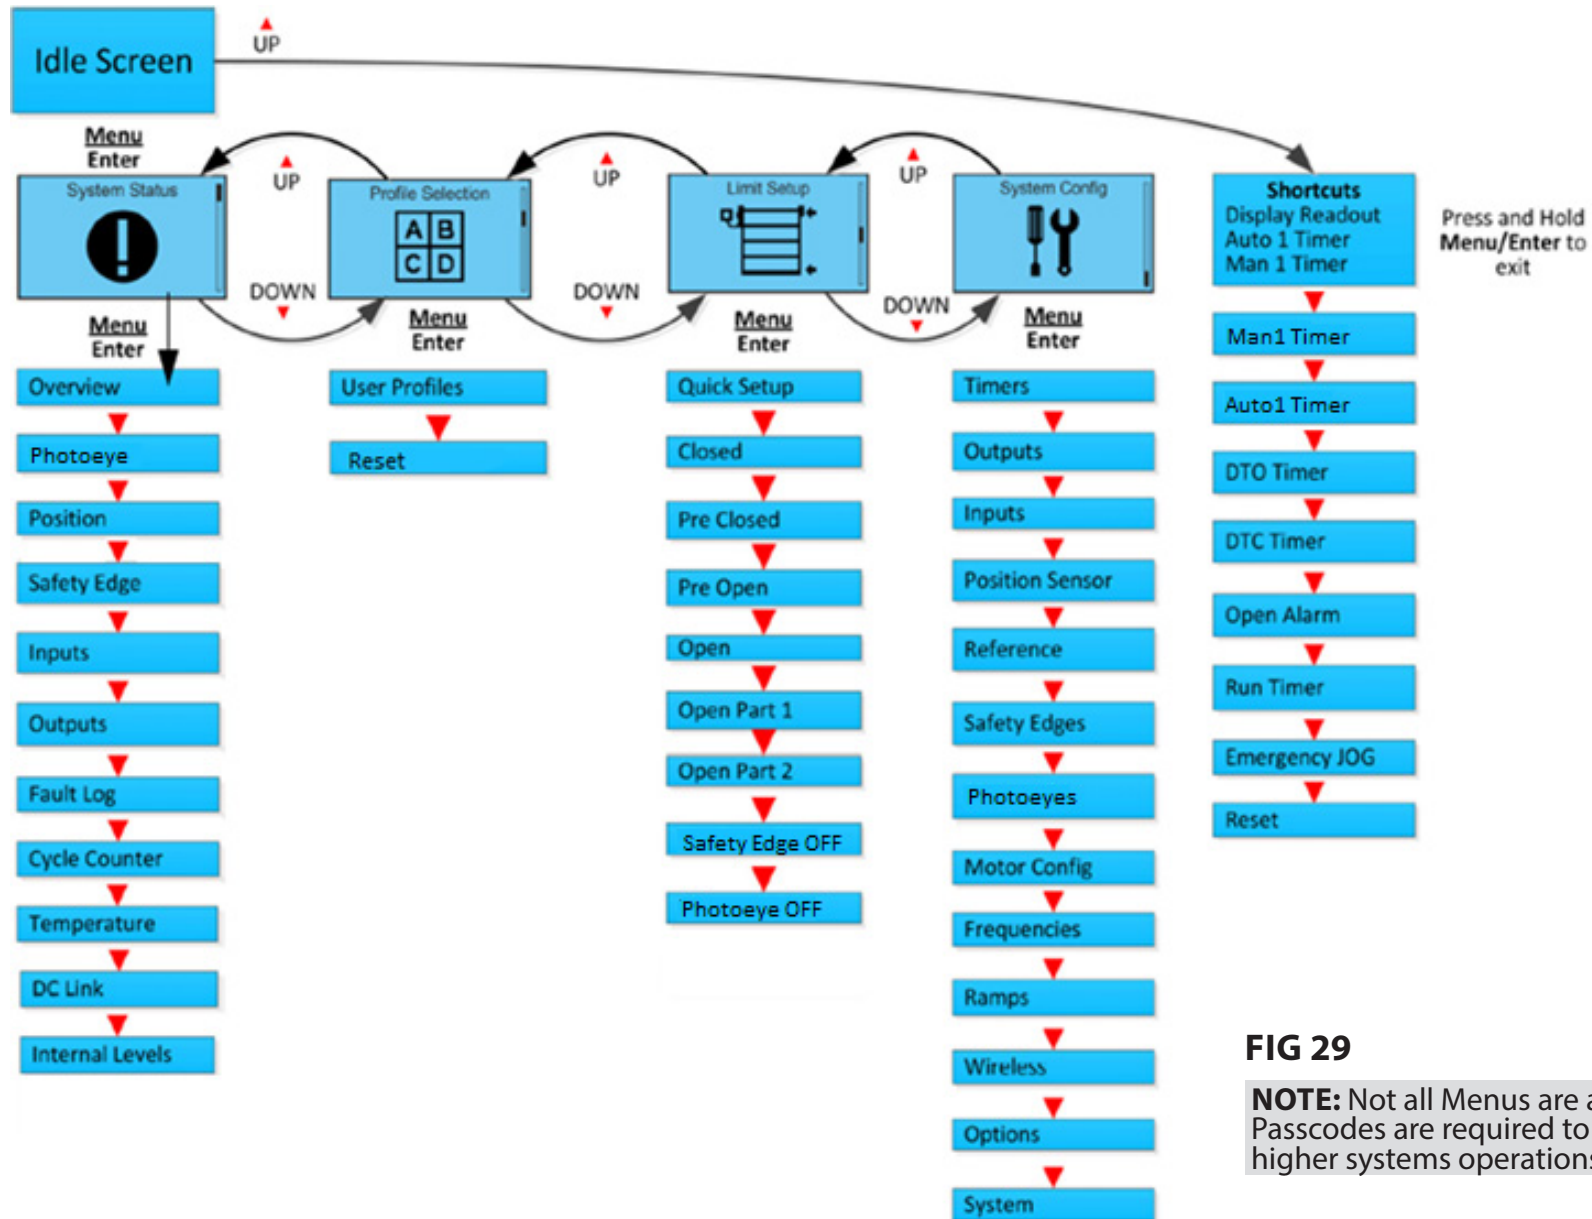

FIG 29
A. To enter the Menu, press and hold the OPEN, STOP, CLOSE membrane buttons for 3 seconds. A count down timer on the top left corner of the LED screen will display the remaining time left to hold. Refer to **FIG 29** on page 25 for the complete menu structure.